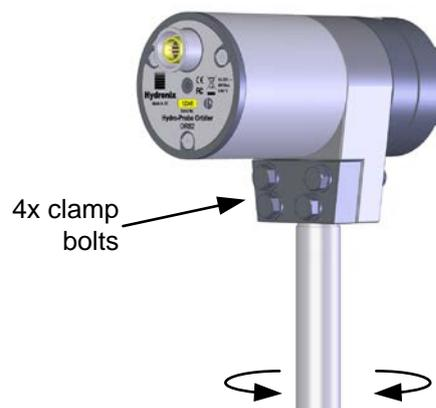

**Figure 13: Height setting of the sensing arm**
- The Sensing Arms are available in multiple lengths. The sensor should be mounted such that there is a 50mm gap between the underside of the Sensing Arm and the mixer floor (Figure 13).
The recommended height for typical applications is 50mm above the floor of the mixer (Figure 13). This height can be set using the angle aligner, which has a width of 50mm.